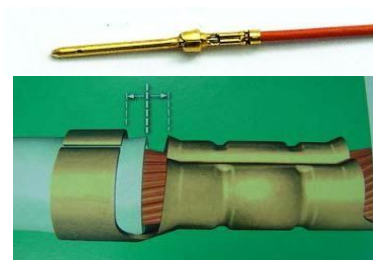

Fig. 26 Crimped cable
- Crimp the thimble as shown in the fig. 26.